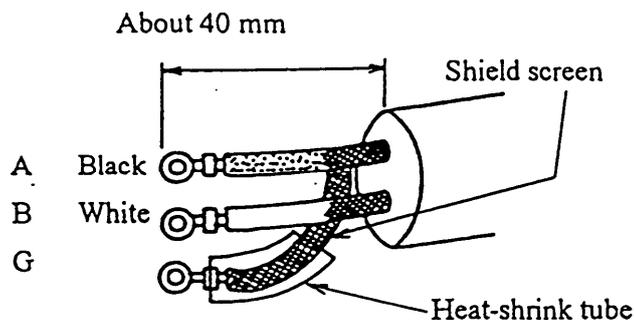

Figure 4.6 Termination of signal cable
Use a signal cable specified in Table 4.3 and follow the procedure below referring to Figure 4.6.
- (1) Strip the cable sheath about 40 mm to expose two shielded wires.
- (2) Unravel the shield screen at the base of each shielded wire to have an opening large enough to extract the internal wire. Then extract the black wire and white wire through its opening at the base of each shielded wire.
- (3) Put the two shield screens (internal wires are already extracted) together into one shield wire and put it through a heat-shrink tube. The heat-shrink tube should be heated later when instructed to protect the shield screen from touching other wires causing a short circuit.
- (4) Strip each end of wire (except the shield wire) about 5 mm to expose stranded copper wire and attach an M4-size ring lug terminal on each end of wire. The lug terminal should have an insulating sleeve and the lug terminal should be pressed firmly onto the end of each wire with a compression tool.
- (5) Put the heat-shrink tube of the shield wire in place as shown in Figure 4.6 and heat it with radiated heat using a soldering iron etc.
- (2) Remove the cable connection from the terminal housing. Then put the terminated signal cable through the cable connection, slip ring and packing.
- (3) Put the above signal cable through the hole on the terminal housing and connect each ring lug of the cable to the terminal board pin A, B and G as shown in Figure 4.6. Then tighten the screws securely with a phillips screwdriver. Loose connection may result in unsatisfactory flowmeter performance. Check the wiring by pulling each wire after the connection to make sure the three wires are securely connected..
- (4) After the terminal board connection, pull the cable outward so that the cable is wired straight from the terminal without unnecessary winding.